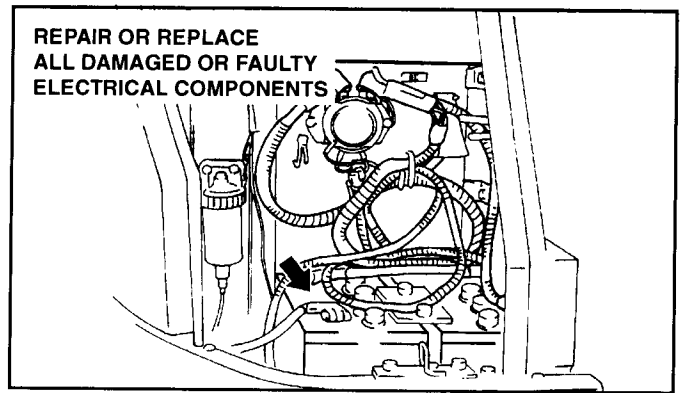

FIGURE 4.27
1. Visually and manually inspect all engine electrical wiring, connectors and components for signs of damage and malfunction. See Figure 4.27.